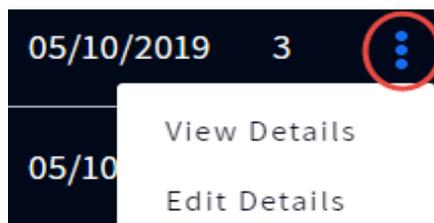

Fig. 1.17
**Drop-down and Pop-out Lists:** The down-arrow  $\nabla$  in a field or next to the field indicates there are more options available to choose from. The More icon (the ellipsis icon with three vertical blue dots in Fig. 1.17) also indicates there are more options to choose from. Tap on the arrow or More icon to open the list and select from the available options.